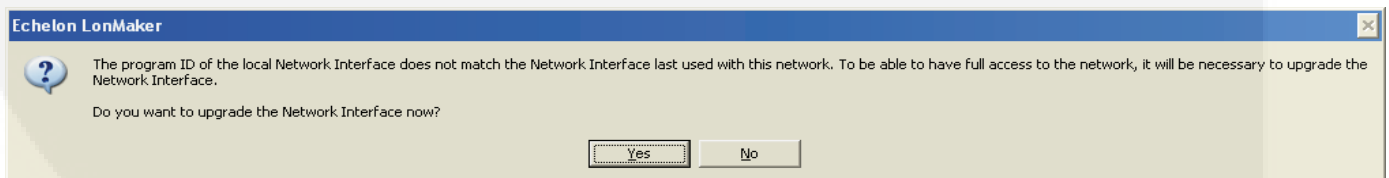

FIGURE 4-27. NETWORK INTERFACE UPGRADE
5. If you see the message shown in Figure 4-27, select **Yes**.